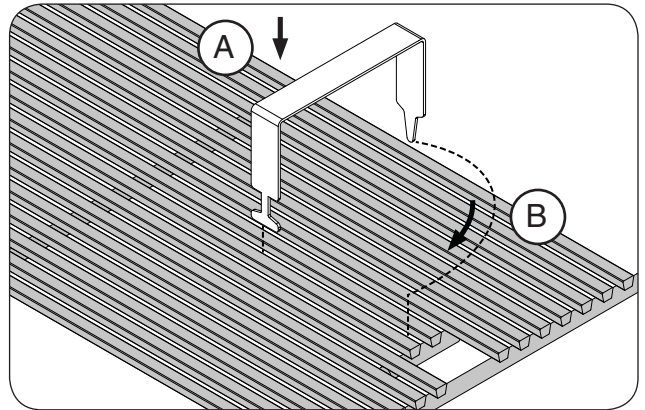
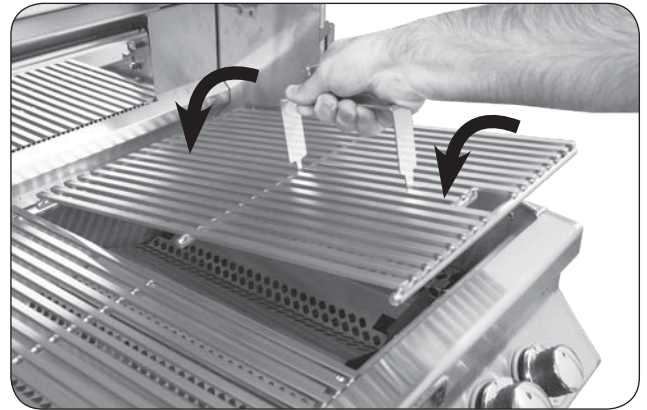

Fig. 19-1 Install cooking grids
Fig. 19-2 Install cooking grids
1. With the prongs facing downward, insert the notched-end of the lifter between two grid rods, then rotate, as shown in Fig. 19-1, A & B.
2. Insert the rear pointed-end of the lifter between the same two rods (Fig. 19-1, B) and carefully lift the cooking grid and place onto the front and rear grid rests of the grill (see Fig. 19-2). Repeat for all other cooking grids.